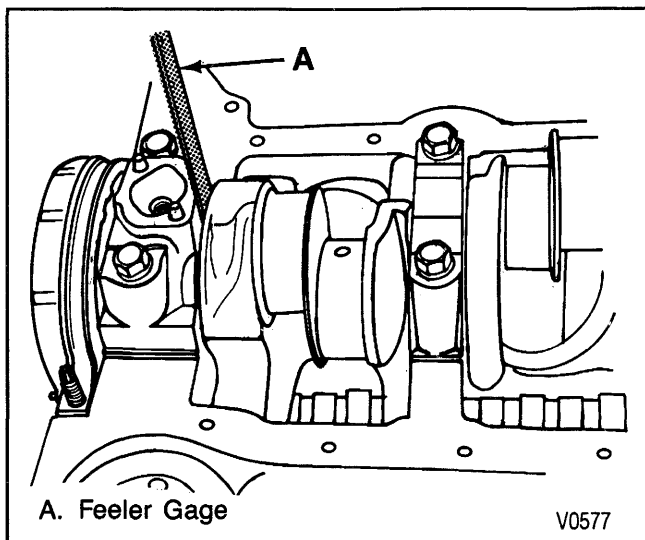

Figure 47—Measuring Crankshaft End Play
- C. With the crankshaft forced forward, measure at the front end of the rear main bearing with a feeler gage (figure 47). The proper clearance is 0.002-0.006 inch.